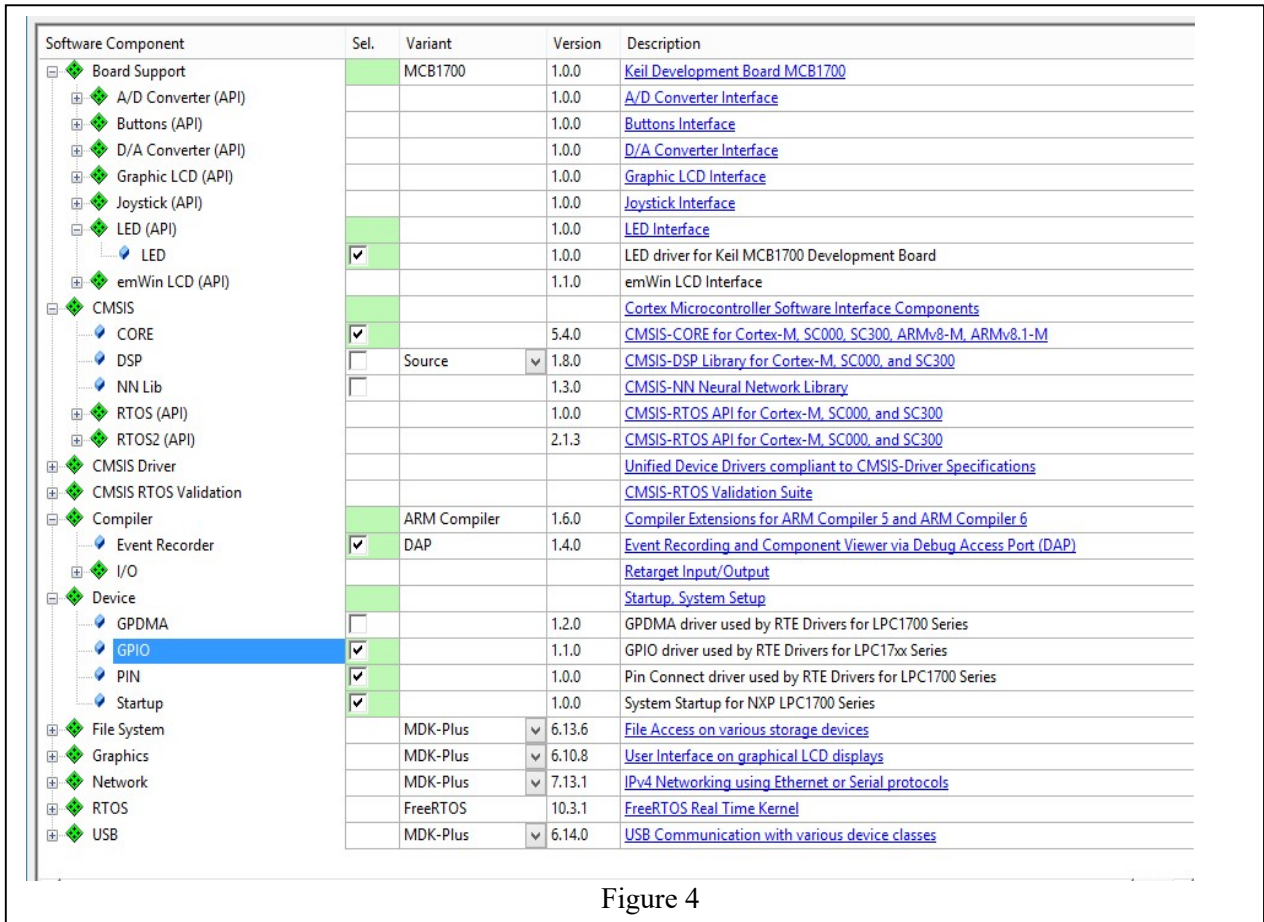

Figure 4
4. Select the following Packages from Run Time Environment and add those to your project Figure 4.